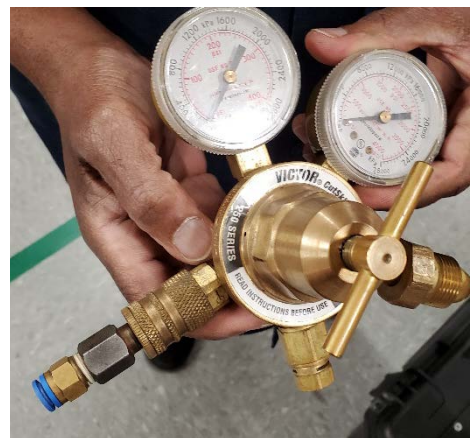

Figure 4
1. Pressure Regulator with 8 mm Tubing Adapter (Figure 4)